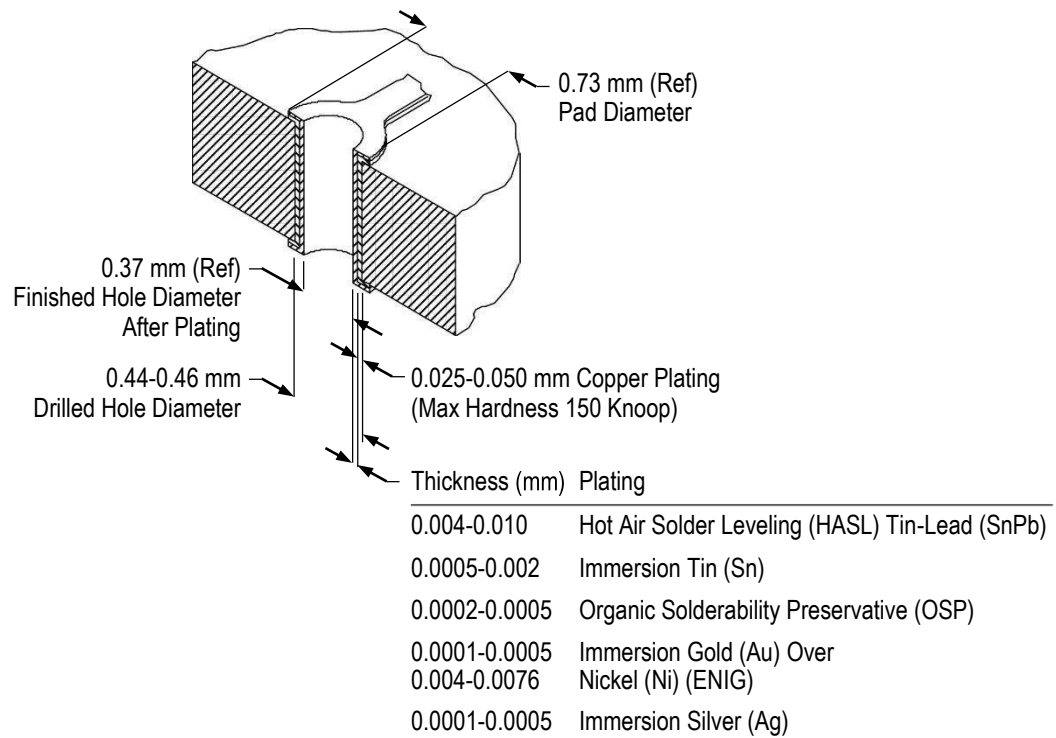

Figure 3
- Corrected arrows for plating in Figure 3
The pc board holes for the signal contacts must be drilled and plated through to dimensions specified in Figure 3.